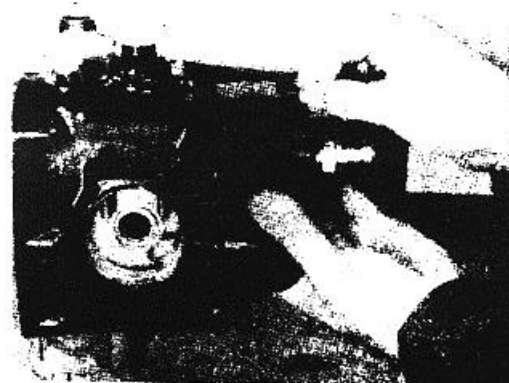

Figure 4-66. 4scembling gear pump to fuel pump.
9. Assemble the gear pump and a new gasket to the fuel pump. Fig. 4-66.